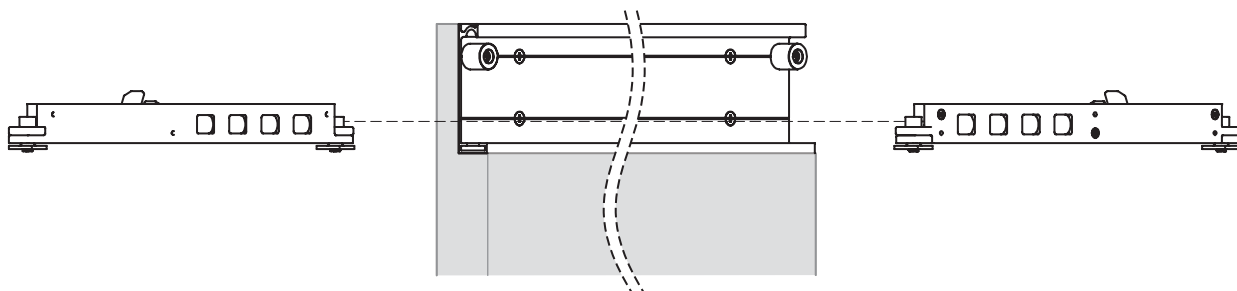

Figure 5
- Slide soft close devices into the track as shown in **Figure 5**.